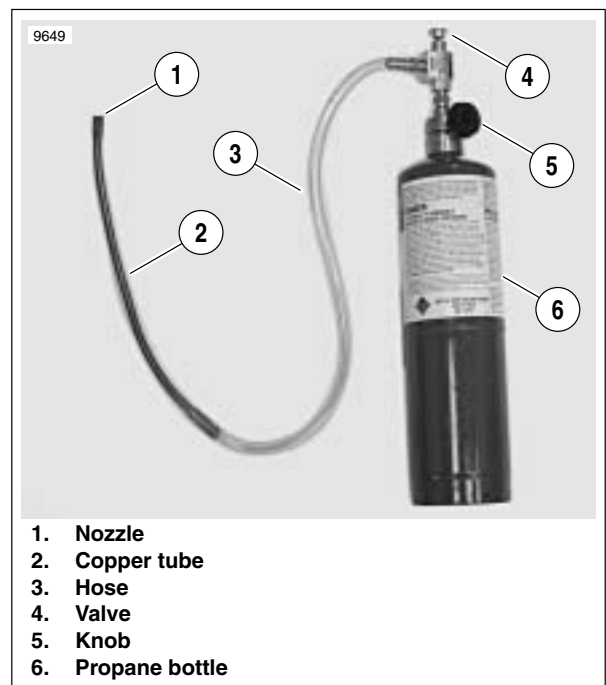

Figure 4-111. Leak Tester
3. See Figure 4-111. Turn knob (5) counterclockwise to open propane bottle (6).